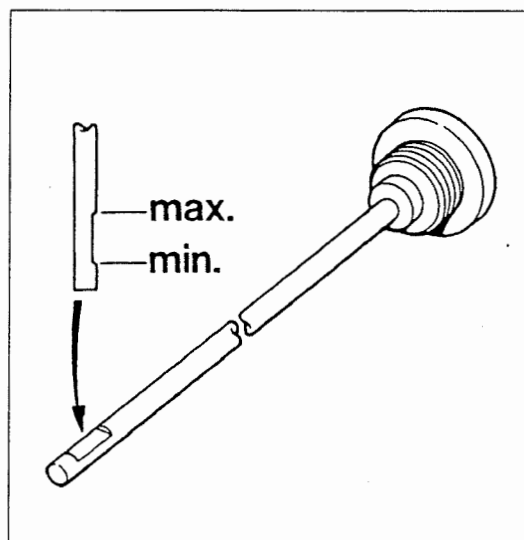

Fig. 5 Oil dipstick markings
Check oil level daily prior to putting compressor into operation. Check using oil dipstick. Wipe off dip stick with lint-free cloth, note that the oil level must be between minimum and maximum dipstick notches (see Fig. 5).
- Oil level is checked with oil dipstick, see Fig. 5 – oil level is correct if at upper mark.